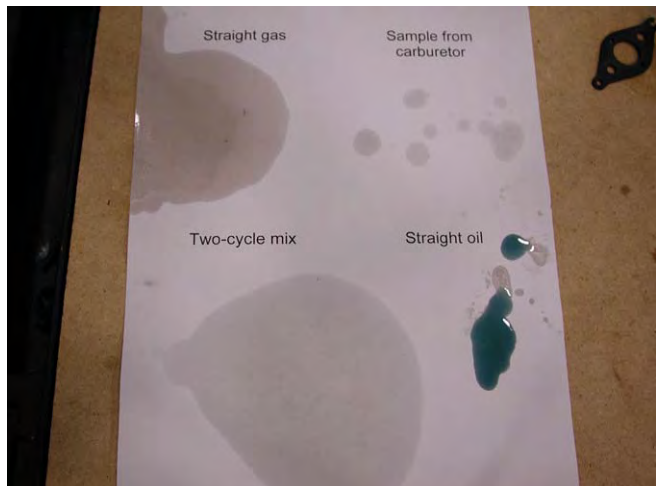

Figure 5.3
5. Match the sample from the carburetor to the other three samples. This will show if the proper mix is being used or not. See Figure 5.3.